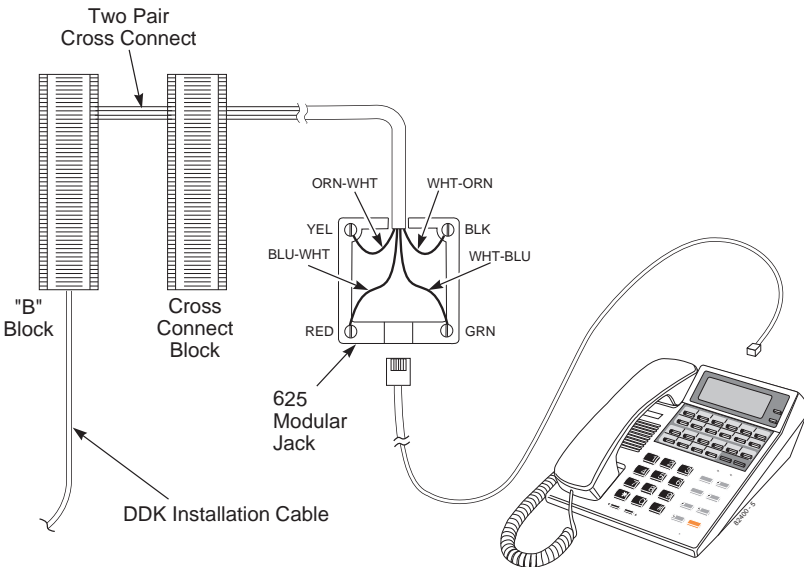

Figure 3-5 CONNECTING KEYSET TELEPHONES
2. Install a modular jack for each extension within six feet of the telephone's location. See Figure 3-5.